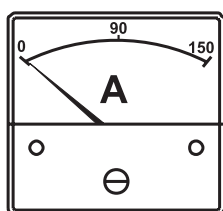

Figure 50. Ammeter (No Load)
- The **ammeter** (Figure 50) will indicate **zero amps** with no load applied. When a load is applied, the ammeter will indicate the amount of current that the load is drawing from the generator.